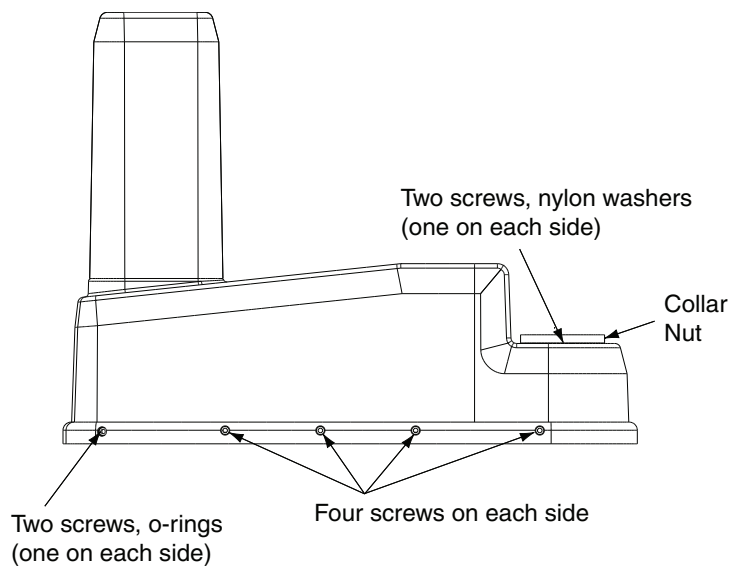

Figure 9-5. Cover Removal Instructions
4. Unscrew the collar nut on the top of the outer link—see Figure 9-5.
7. For the 8 screws along the side of the cover (4 on each side; see Figure 9-5), loosen only 1 to 2 turns, just enough to loosen the inside clamp nuts. Do not completely remove the screws. See the label on the side of the outer link cover.